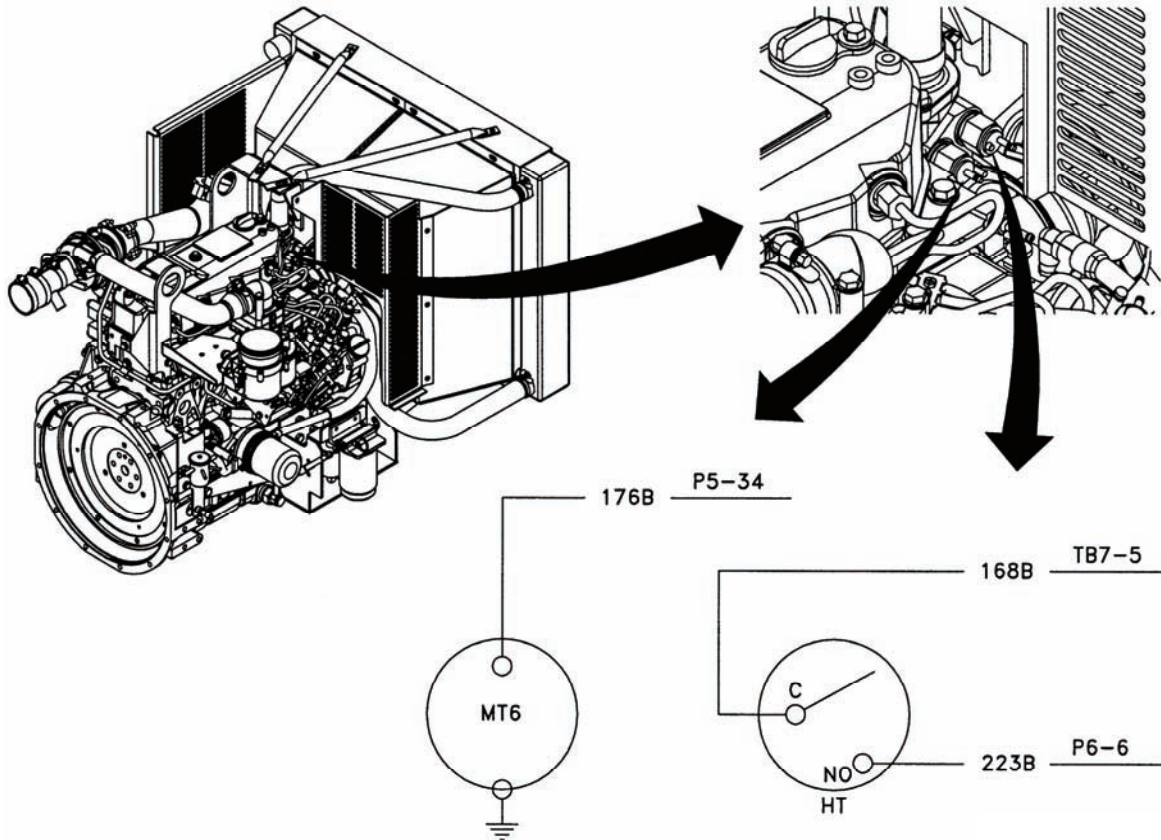

Figure 5-33. Coolant Sensor Wire Harness.
- b. Connect wire 168B20 to C contact of coolant high temperature switch HT (Figure 5-33).